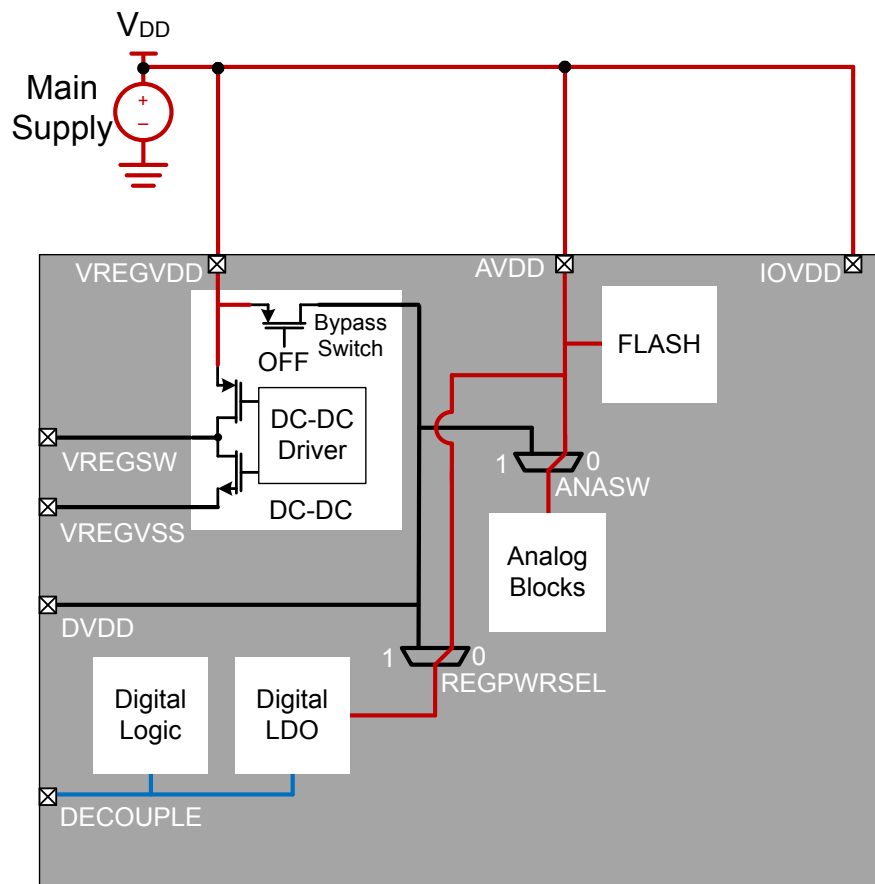

Figure 3.2. EFM32xG11/12 and EFR32xG12/13/14 Unconfigured Configuration
**Note:** Figure 3.2 EFM32xG11/12 and EFR32xG12/13/14 Unconfigured Configuration on page 12 is only provided to show the device startup default supply configuration, and is not a usable application configuration.